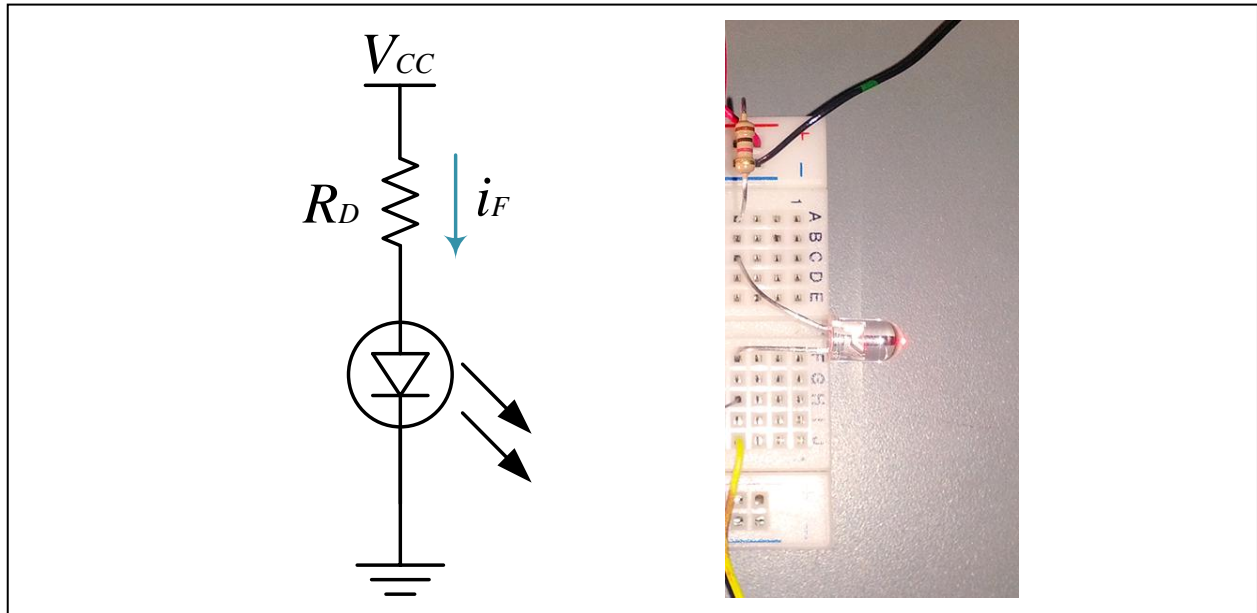

Figure 2: Left, LED Driver Circuit. Right, LED overhanging the narrow edge of a breadboard.
1. On one breadboard, construct the following circuit (Figure 2, Left) using a **Red or Green LED**. If you want to know why the color is important, refer to the Spectral Sensitivity figure of the TEPT4400 phototransistor. Choose the values of  $R_D$  and  $V_{CC}$  so that the LED receives a current of 20mA. Ensure the LED overhangs the narrow edge of the breadboard (Figure 2, Right).